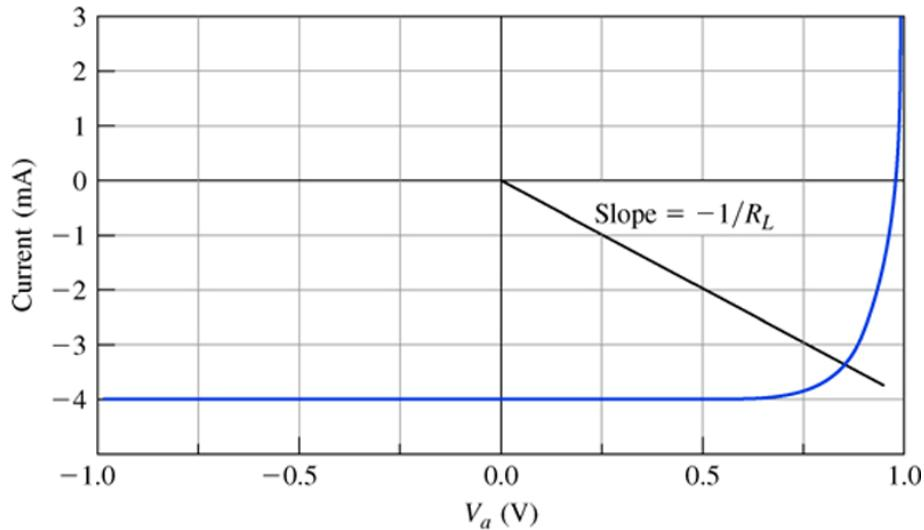

Figure 5: A typical I - V characteristic of a solar cell
- [b] Figure 5 shows a typical I - V characteristic of a solar cell. Determine the short-circuit current (I_{sc}), open-circuit voltage (V_{oc}), and calculate efficiency (η). The incident power is 20 mW.